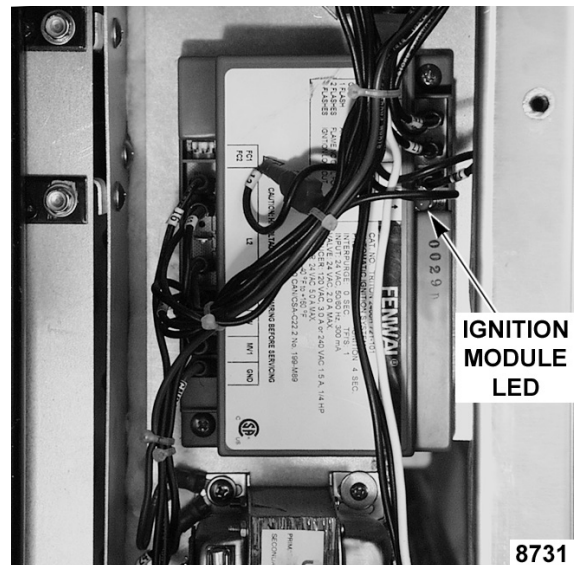

Fig. 58
- I. Observe LED on ignition module (Fig. 58). The module should lockout. (See following chart.)